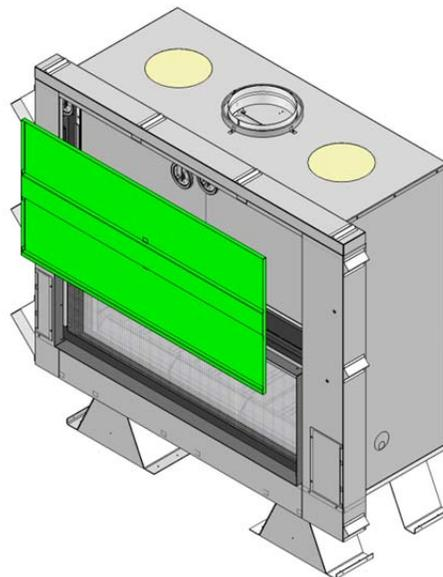

FIGURE 11 PARTS TO BE REMOVED TO ALLOW THE INSTALLATION OF THE GLASS DOOR AND FIRESCREEN
1. To be able to install the counterweights, the front finishing cover should be removed and reinstalled later (see Figure 11). Take the time to notice how it is installed and keep all the screws.
15. Reinstall the front finishing cover (see Figure 11).